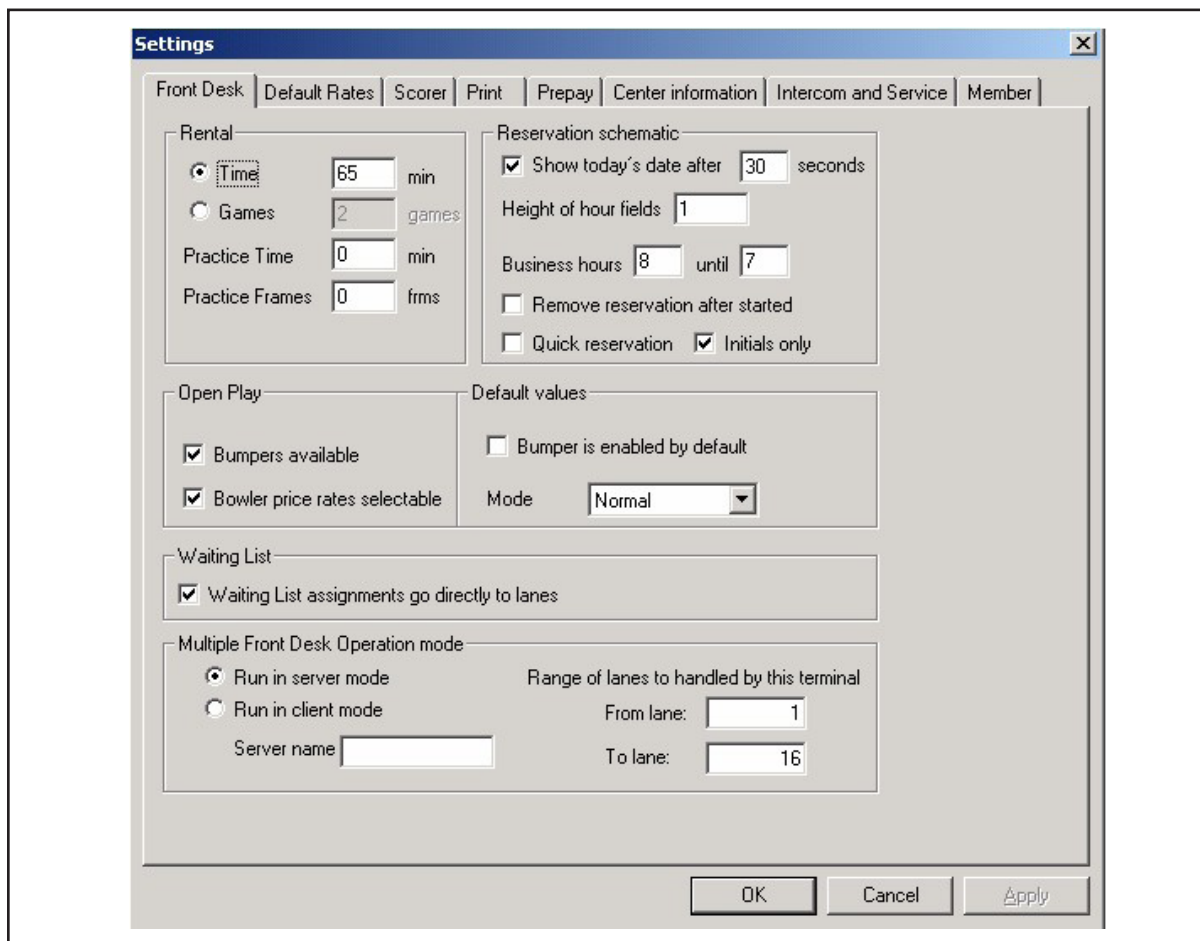

Figure 16. Vector Settings - Front Desk Tab
2. On the *Front Desk* tab, be sure there is a check mark in the box next to *Bumpers Available*. Refer to *Figure 16*.